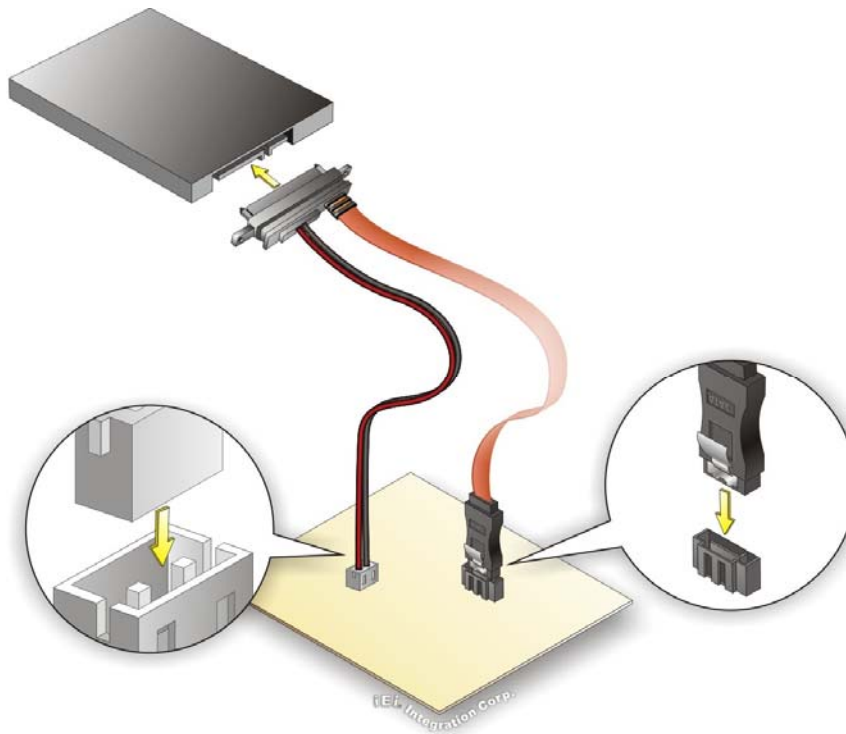

Figure 4-21: SATA Drive Cable Connection
- Step 2:** **Insert the cable connectors**. Insert the cable connectors into the on-board SATA drive connector and the SATA power connector. See **Figure 4-21**.
Step 3: **Connect the cable to the SATA disk.** Connect the connector on the other end of the cable to the connector at the back of the SATA drive. See **Figure 4-21**.